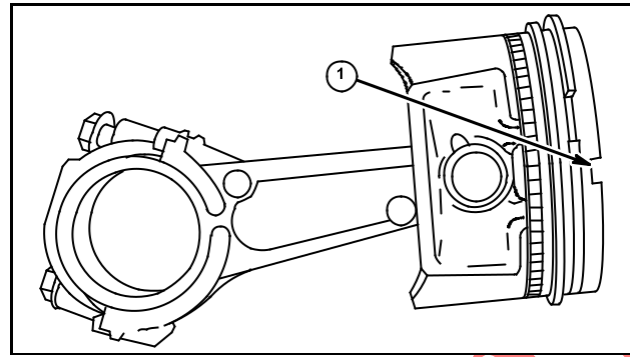

Fig. 7
1. On pistons except Model Series 300000, 320000, install one pin lock in bore groove opposite notch (1). Place rod in piston with offset rod cap to left side of piston, Fig. 7. Push piston pin from notch side of piston through piston and rod until pin seats on lock. Install second piston pin lock, (when used).